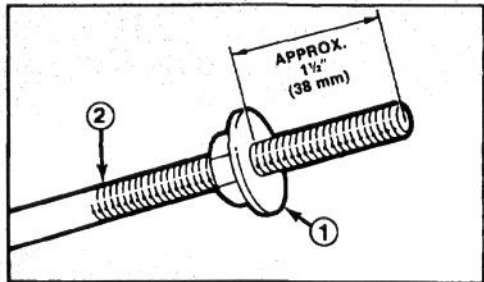

Figure 2
1. Thread a flange nut (flange side down) onto traction rod located on left handle (Fig 2).